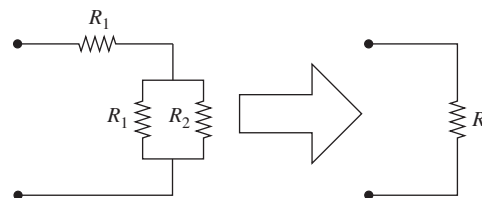

Figure P2.6 Series-parallel combination of resistors.
- 2-6.** In the purely resistive circuit shown in Fig. P2.6, the total resistance R of the circuit is given by